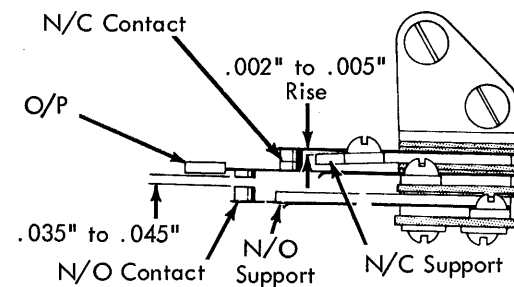

FIGURE 214. Carrier Return Interlock Inactive
- a. Form the N/C support so that the O/P lifts the N/C contact .002" to .005" (Fig. 214).
b. Form the N/O support so that the O/P clears the N/O contact .035" to .045" (Fig. 214).